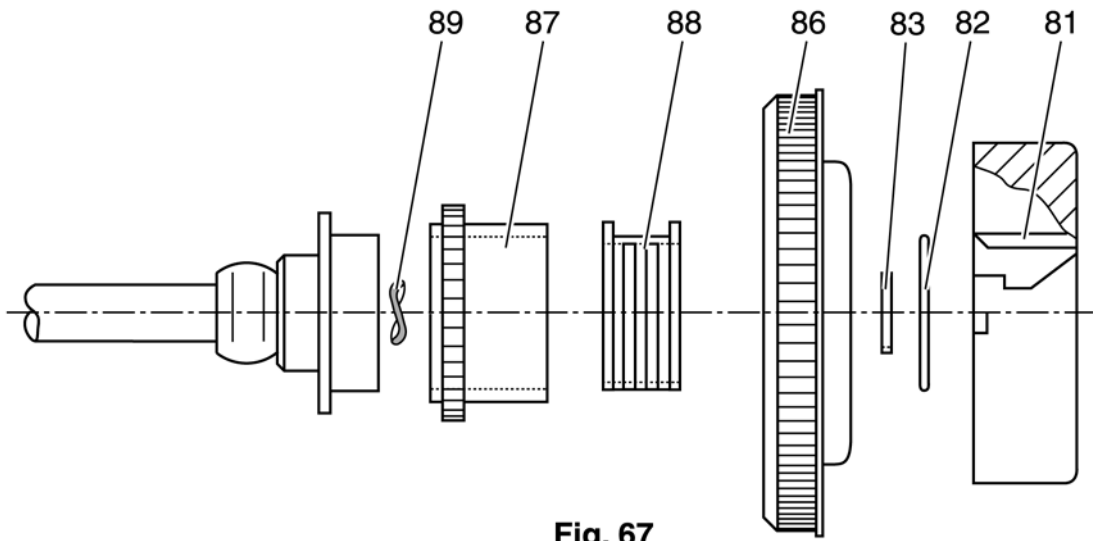

Fig. 67
- Push the handwheel onto the arm shaft, so that lug 81 locks in place above tapered notch pin 82 (fig. 67).